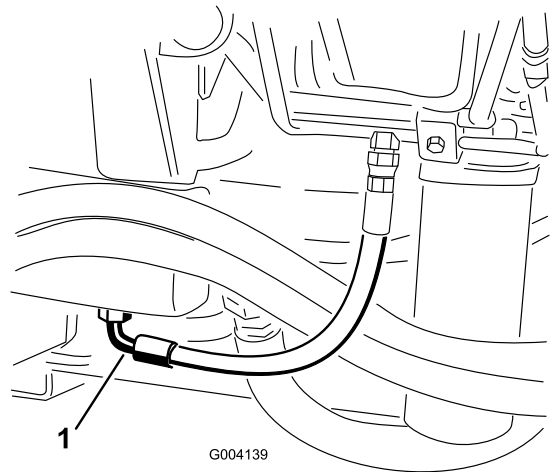

Figure 63
2. Place a large drain pan under the fitting secured to the bottom of the hydraulic fluid reservoir (Figure 63).